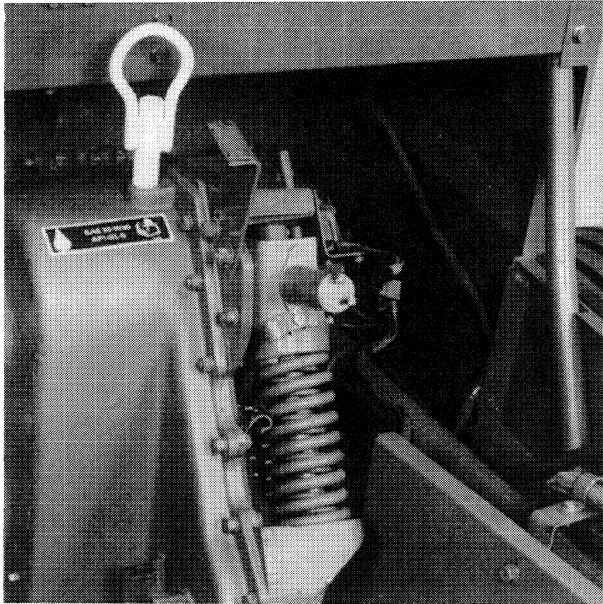
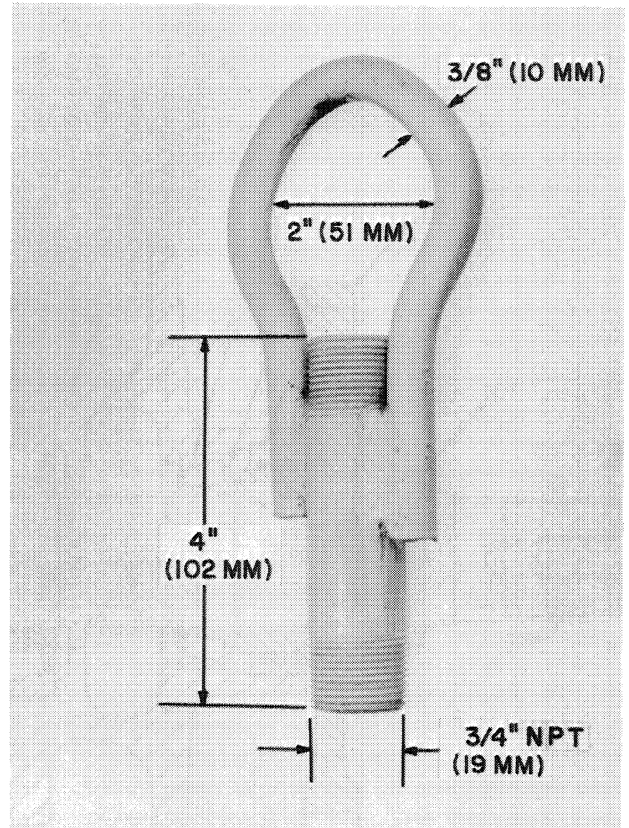

FIGURE 1-6
FIGURE 1-7
11. Remove the reversing gearbox fill plug and install a lift bracket, as shown in Figure 1-6. See Figure 1-7 for lift bracket dimensions.